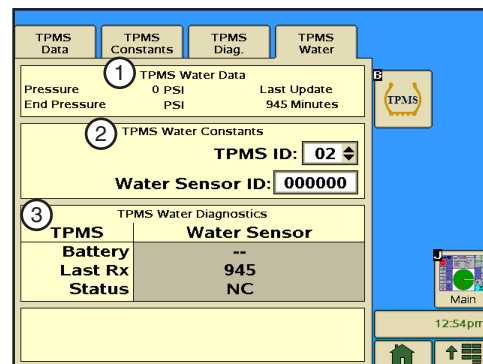

Figure 65-1 1. TPMS Water Data
1. To view the TPMS Water screen, push **Options, TPMS, TPMS Water** for the TPMS Water screen. Refer to Figure 65-1.
1. Push **Options, TPMS, TPMS Water Data** for the TPMS Water Data screen. Refer to Figure 65-1.